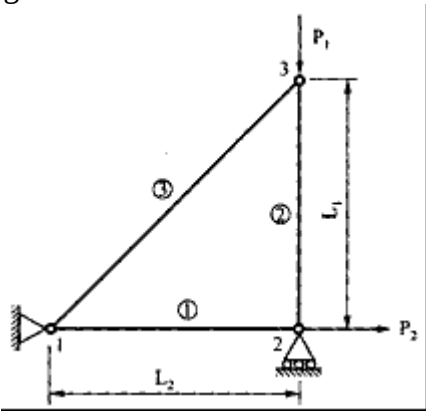

Figure 4
- (c)** A three bar truss is shown in Figure 4. The modulus of elasticity of the material is $300 \times 10^3 \text{ N/mm}^2$. The area of the bar used for the truss is 60 mm^2 for all the elements. The length $L_1 = 750 \text{ mm}$ and $L_2 = 100 \text{ mm}$. The load $P_1 = 20 \text{ kN}$ and $P_2 = 25 \text{ kN}$. Determine the element stiffness matrix for each element and the global stiffness matrix. **07**